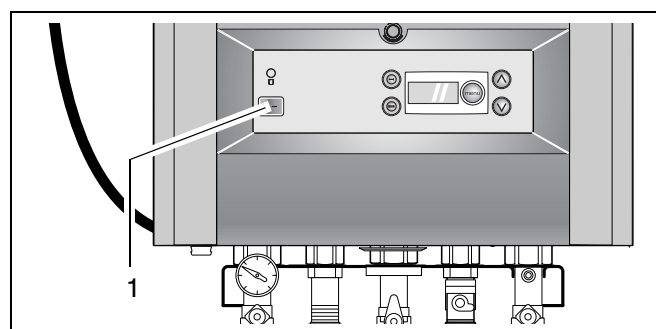

fig. 4 DBA – Mains switch
- Push the mains power switch (fig. 4, item 1) to "0".
- Turn off the boiler by setting the mains power to "0" (fig. 4, item 1).